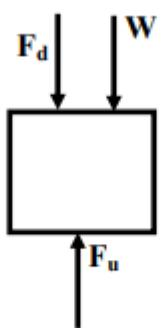

Fig. 8 Forces acting on the float
- Now consider the free body diagram of the float, shown in fig. 8. Let,